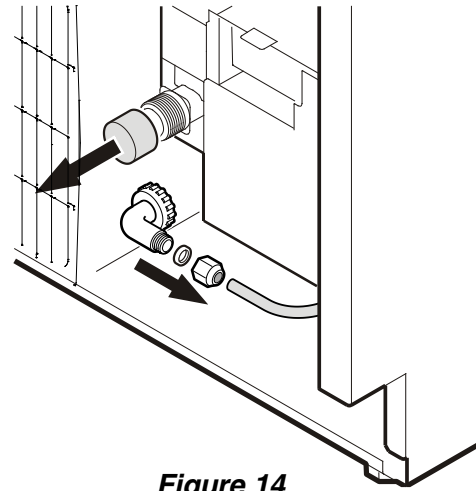

Figure 14
5. Remove the cover from the valve connector (**Figure 14**).
6. The water line is visible at the front of the appliance. Connect the water line with the OD adapter (**Figure 14**).